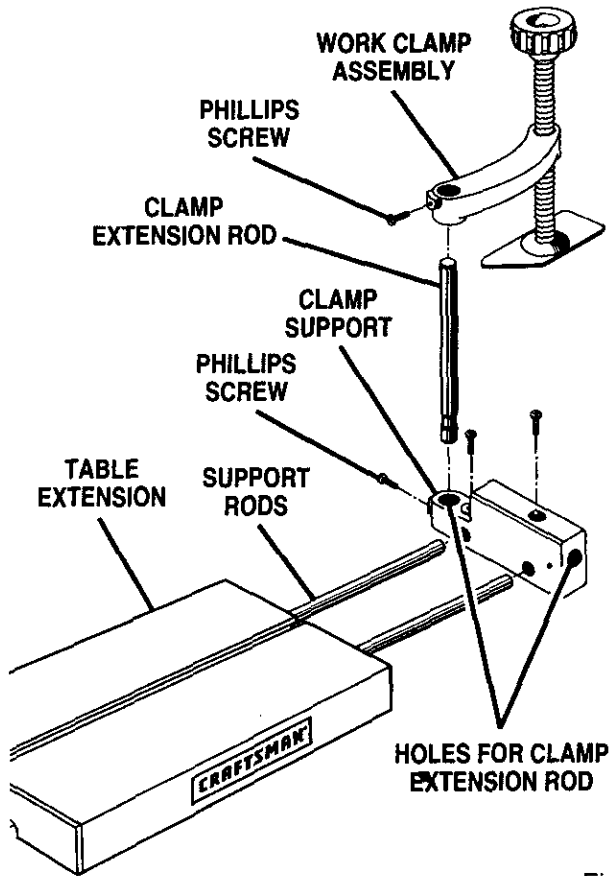

Fig. 43
- Slide the clamp support onto support rods and secure using a phillips screw in each screw hole in the top of the clamp support. See Figure 43.
See Figures 43 and 44.